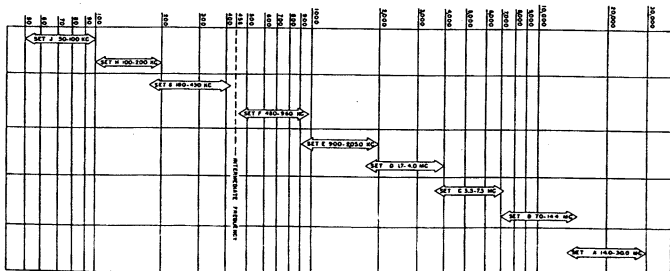

Figure 3. Coil set—frequency spectrum chart.
b. **PLUG-IN COIL SETS.** Individual coil set coverage is shown in figure 3.